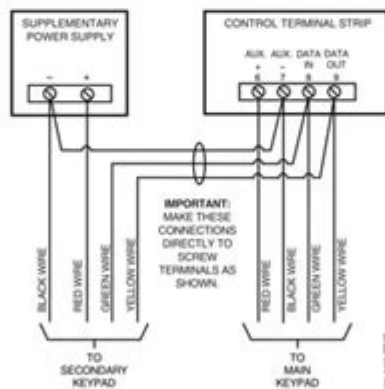

Figure 3-5: Using a Supplementary Power Supply
Connect the additional keypads as shown in Figure 3-5, using the keypad wire colors shown. Be sure to observe the current ratings for the power supply used.
- Make connections directly to the screw terminals as shown in Figure 3-5.